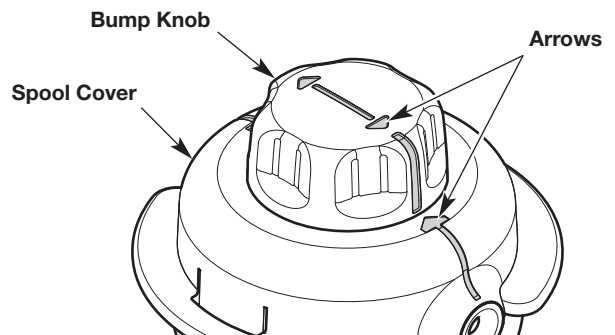

Fig. 18
- Turn the bump knob to align the arrows on the bump knob with the arrows on the spool cover (Fig. 18).